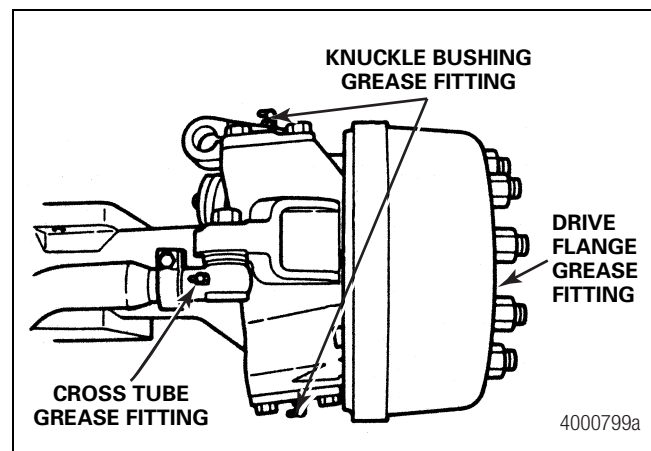

Figure 7.2
1. Check the cross tube for looseness of more than 0.060-inch (1.52 mm). Figure 7.2. If loose, service as necessary.
1. Check the knuckle for looseness. The correct end play is 0.005-0.015-inch (0.127-0.381 mm). Figure 7.2. If loose, service as necessary.